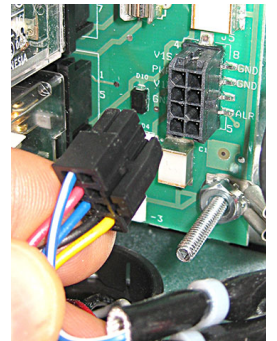

Figure 19
23. Route new harness into control box and connect to the interface board (see Figure 19).